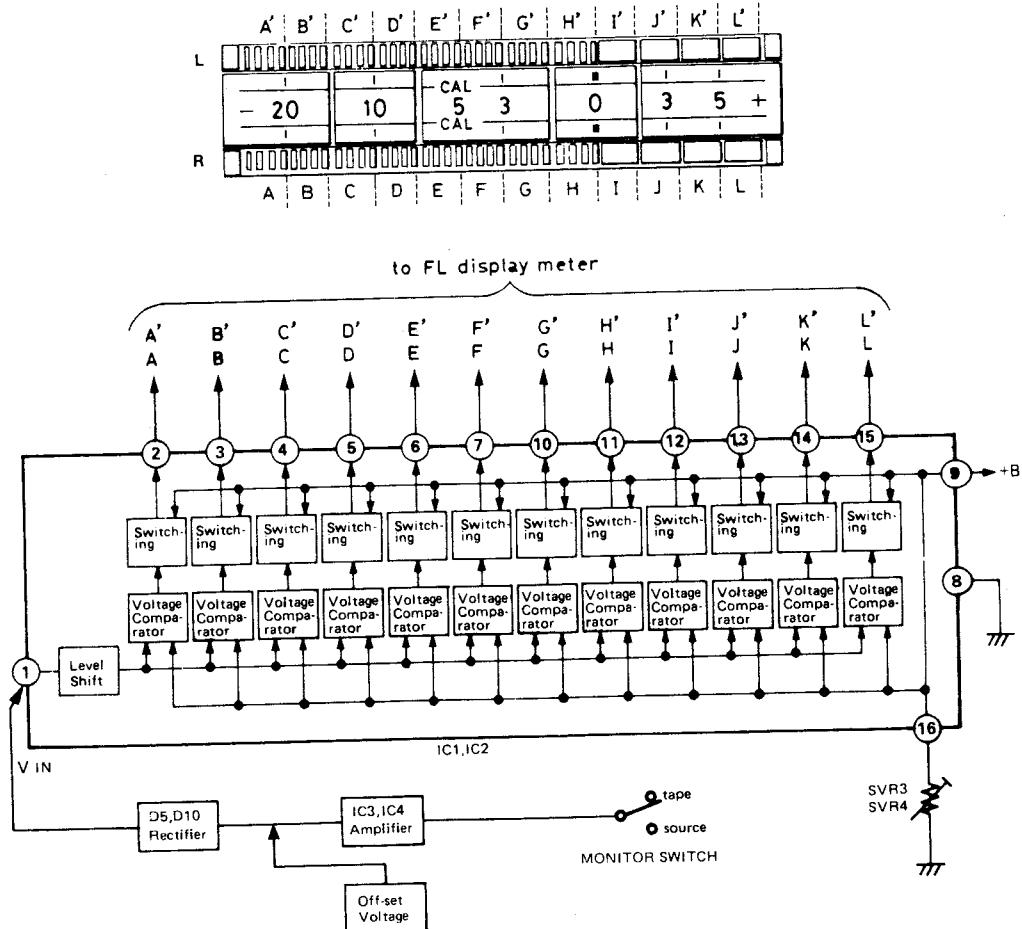

Fig. 11
As shown in Fig. 11, IC1 and IC2 consist of voltage comparator circuit and switching circuit. Based on the constant voltage power source (V_{cc}) supplied into terminal (9), the voltage fed from terminal (1) is compared. According to the result of voltage comparison, the switching circuit is operated to set the plate output voltage to 15V or 0V, thereby controlling the plate voltage of FL meter. SVR3, SVR4 are the variable resistors for setting the reference comparative voltage at the time of specified record level input (0 dB adjustment).